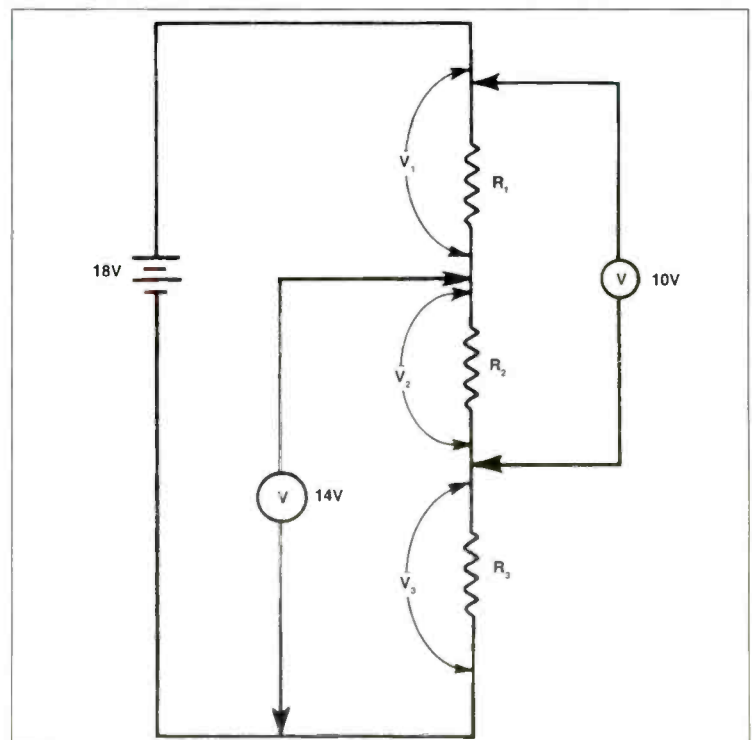

Figure 3. What is the voltage across R_2 ?
6. Can you find the voltage drop across R_2 in the circuit of Figure 3?